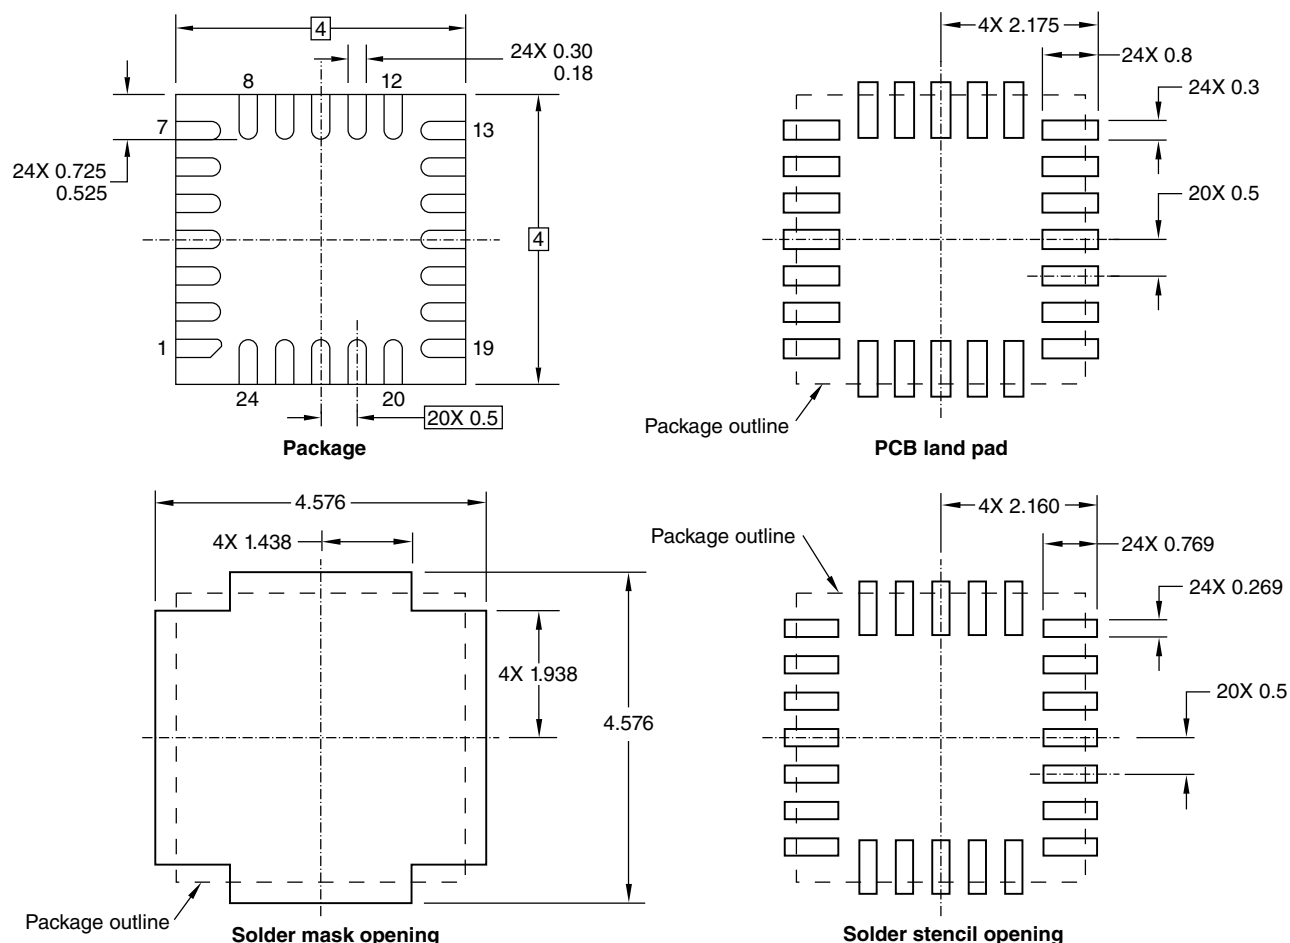

Figure 24. Footprint
The following recommendations are meant to serve as general guidelines for realizing an effective PCB layout. See Figure 24 for component PCB footprint dimensions.
- The PCB land pattern should be designed with Non-Solder Mask Defined (NSMD) as shown in Figure 24.